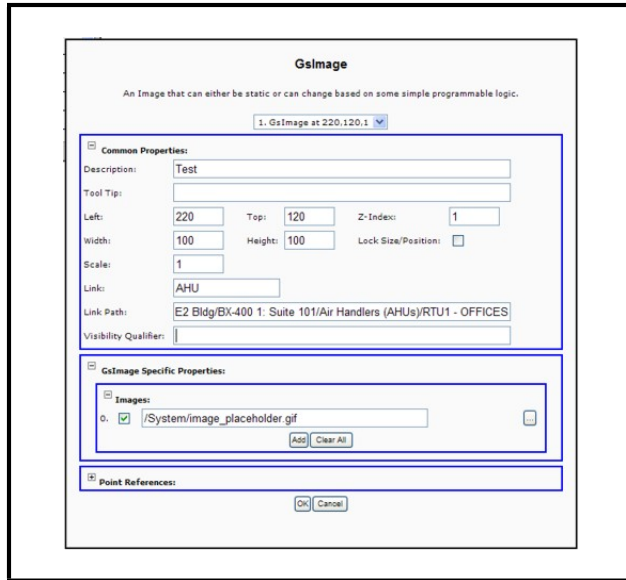

Figure 10-26 - GsImage Property Editor
- **Link Path:** The link path is *how* to get to the node of the tree you want to go to *from where you are now*. If the **Link Path** field is blank, it is assumed that the screen will be loaded at the same Tree node where the current screen has been loaded. This can be done by entering a “relative” path (preferred) or an “absolute” path. Using the graphic in **Figure 10-26** as an example, the fields would be populated with the “relative” path information below when linking the push-button widget to the AHU GS Screen: